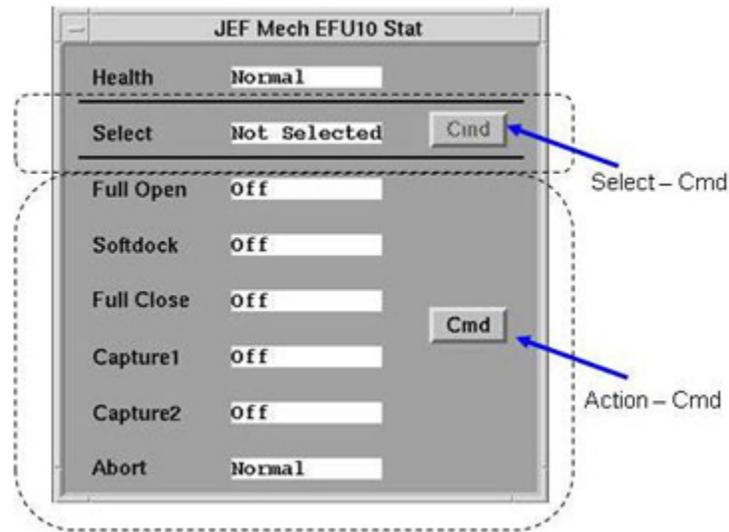

Figure 1. EFU Cmd Buttons.
1. When Select - Cmd is selected in Figure 1, JEF Mech EFU10(9) Select Cmd window opens for EFU selection.
2. When Action - Cmd is selected in Figure 1, JEF Mech EFU10(9) Action Cmd window opens for execution of Softdock, Release, or Capture Command.
3. When Action - Cmd is executed, JEF Mech EFU10(9) Action Cmd window will be automatically closed. Therefore re-open of this window is required to issue the Stop command for EFU unexpected motion.
* sel Action - Cmd (Refer to Figure 1)